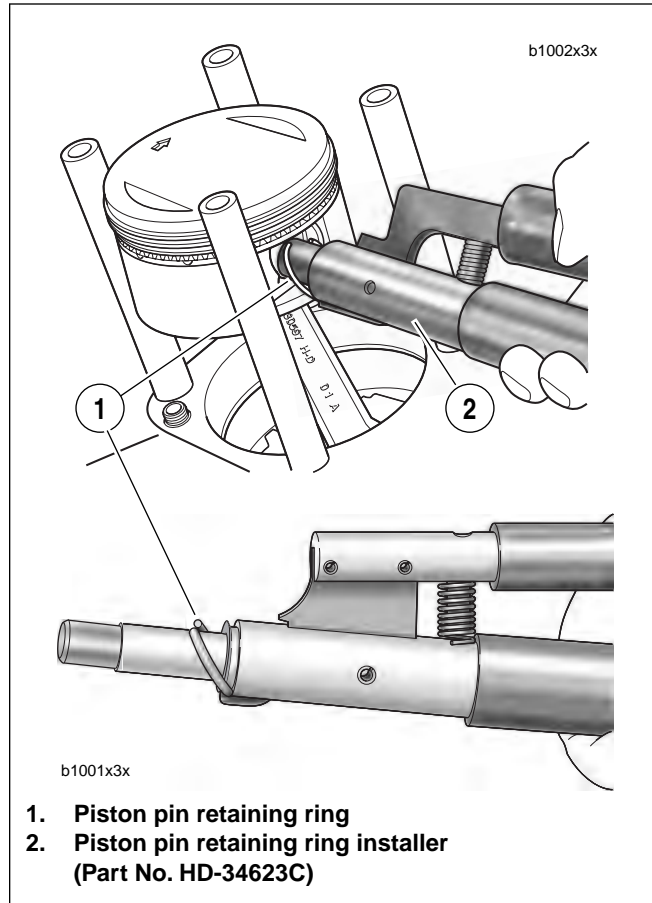

Figure 3-87. Removing Piston Pin Circlip
8. See Figure 3-87. Remove the piston pin circlip as follows: